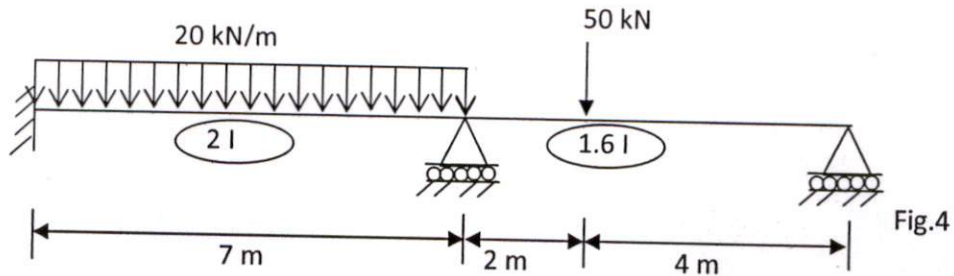

Fig.4
8) Analyse the continuous beam shown in the Fig.4 using Stiffness Method. Draw shear force and bending moment diagrams. Also draw Elastic curve.